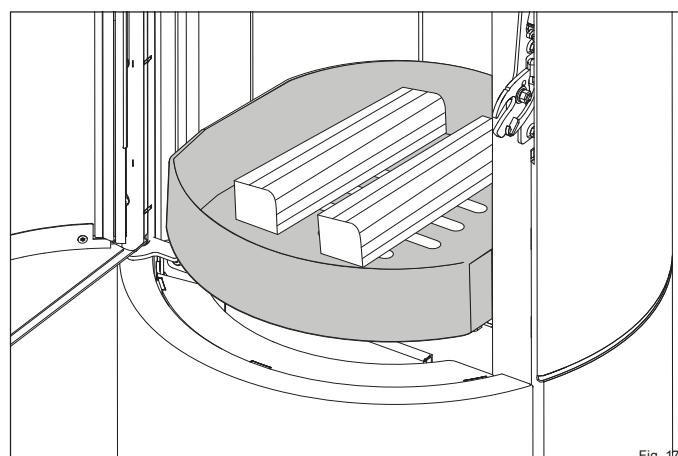

Fig. 17
- Add two logs (4) with a total weight of 1.4 kg in the middle of the firebox (face forward).
- Keep approx. 5 cm from the firebox glass (Fig. 17).